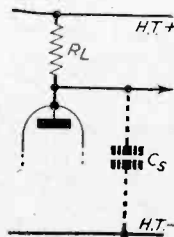
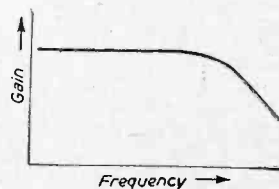
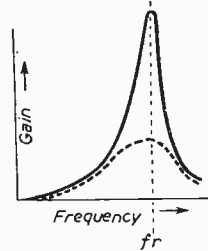
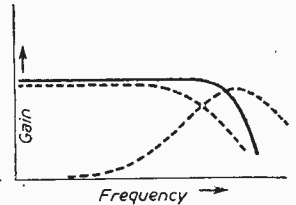

Fig. 8.—Fig. 7 without the peaking choke.
Fig. 9.—Response of circuit given in Fig. 8.
Fig. 12.—Response of circuit given in Figs. 10 and 11. (See text.)
Fig. 13.—Graph showing overall response of shunt peaking circuit. (See text.)
(1) Assume that the peaking choke L is not present (Fig. 8), this is seen to be the same as the basic circuit and the response of this is known to fall off at high frequencies as shown in Fig. 9.
will be recognised as an amplifier with a tuned anode load; such a circuit will of course give a very large output at the resonant frequency of the anode circuit. The response being similar to the solid curve in Fig. 12.
capacity C_s will be flatter, as shown by the dotted curve in Fig. 12.
(3b) But by introducing the resistance in series with the peaking choke, one is, in fact, merely replacing the anode load R_1 and thus the actual response will be a combination of the response shown in Fig. 9 and the dotted curve of Fig. 12. The result of this combination is shown by the solid curve in Fig. 13.